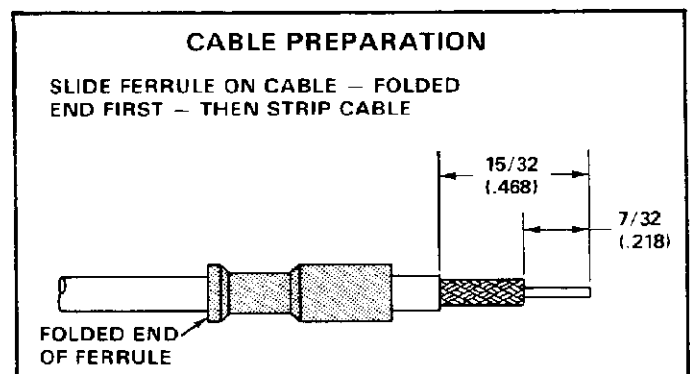

Fig. 2
- Slide ferrule onto cable — folded end first. Strip cable to the dimensions shown in Figure 2.